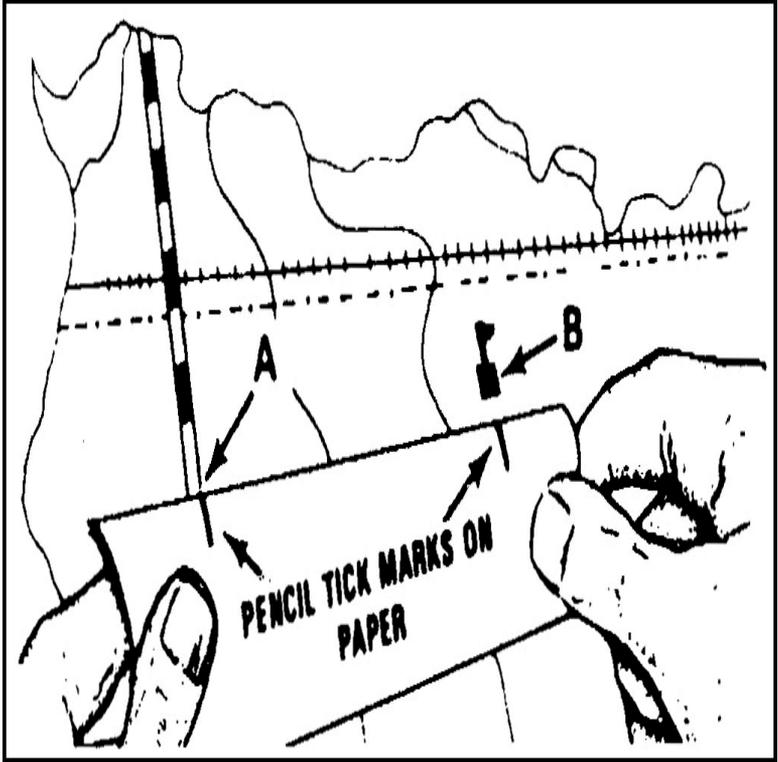

Figure 071-COM-1008-1. Beginning and Ending Points.
- b. Mark a tick mark on the beginning and ending points on the straight edge of the paper (Figure 071-COM-1008-1).